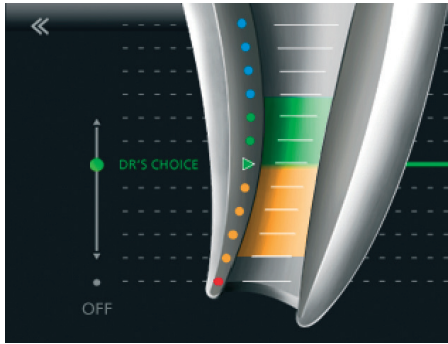

Fig. 24 DR'S CHOICE is set
- Having set this variable apical line at the preferred position, e.g. at the last green bar (Fig. 24).